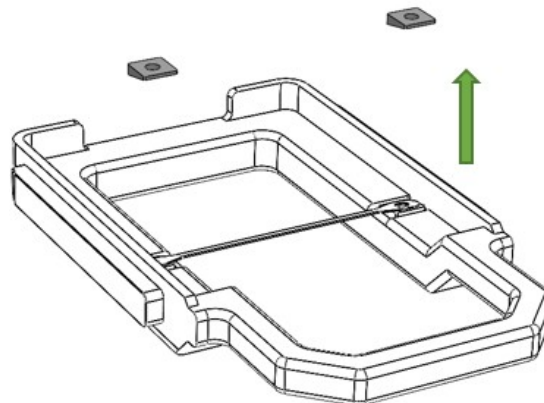

Figure 6. Blade disassembly method. View 3
3. From the top side of the cartridge, remove the angle-setting plates. Pay close attention to the orientation of the mounting plates (Figure 6).